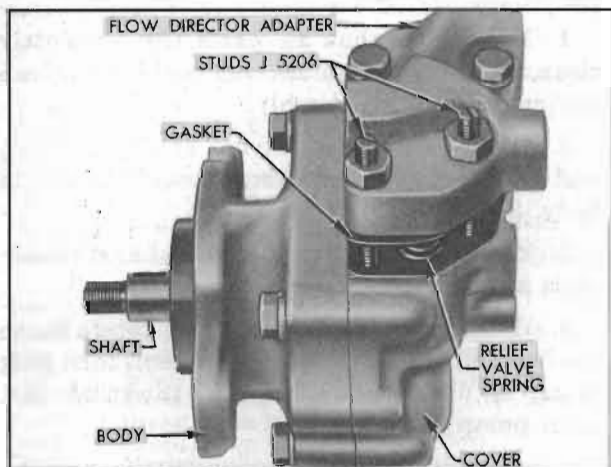

Figure 7-42—Removing Adapter With Studs J 5206
2. Remove large hex cap and seal from the flow director adapter (fig. 7-42) but leave hose connector in place. Remove hose unions and seals from pump cover.
3. Remove adapter bolts and install Studs J 5206, one at a time, at the two locations shown in figure 7-42.